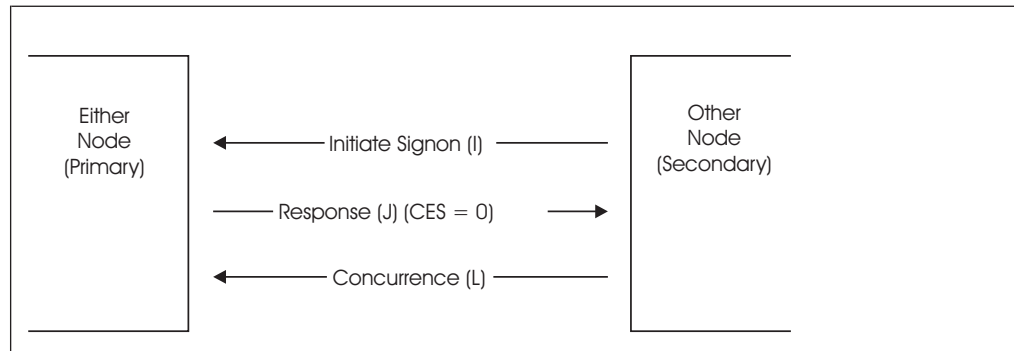

Figure 31. Secondary Trunk Connection
A secondary trunk is a line directly connecting two systems already directly connected when the secondary connection is made and the new line resistance is not less than the original. Because this does not represent a new connection, no CES is assigned and no distinction is made between low end and high end. In this case, the multi-trunk flag must be set on in the response (J) record. If the new line resistance is less than the original, this becomes the primary trunk with the CES not equal to zero. Figure 31 on page 161 illustrates secondary full trunk connection protocol.